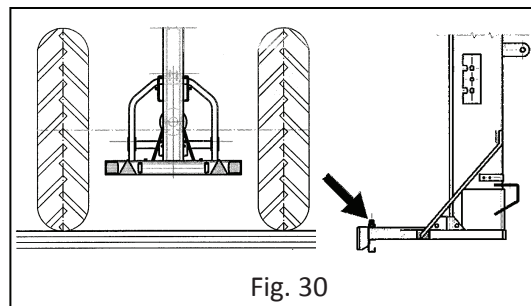

Fig. 30
16. Check if the shape of the log splitter doesn't cover the rear lights of your tractor and if necessary apply a protruding-load signaling panel with red and white refractive stripes, or a suitable signaling lights bar (code 400.097.K) provided as optional upon request by the manufacturer. Both signaling bars must be applied to the rear ends of the log splitter's support base. (See fig. 30)